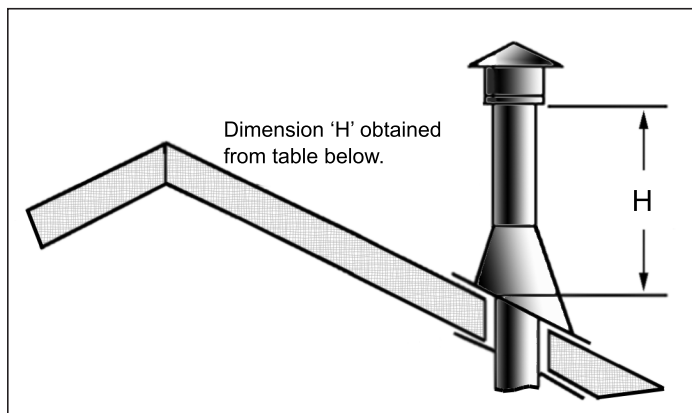

Figure 30: Height of Vertical Termination; Reference Table 7.
- STEP 8.** Continue to add pipe sections until the height of the vent cap meets the minimum code requirements. Refer to Figure 30 and Table 7. Note that for steep roof pitches, the vent height must be increased. In high wind conditions, nearby trees, adjoining roof lines, steep pitched roofs, and other similar factors can result in poor draft, or down drafting. In these cases, increasing the vent height may solve the problem.